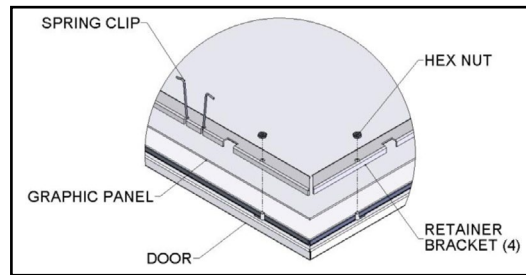

FIGURE 5: Door Assembly
- Remove hex nuts from all four (4) retaining brackets on the back side of the door. See Figure 5.